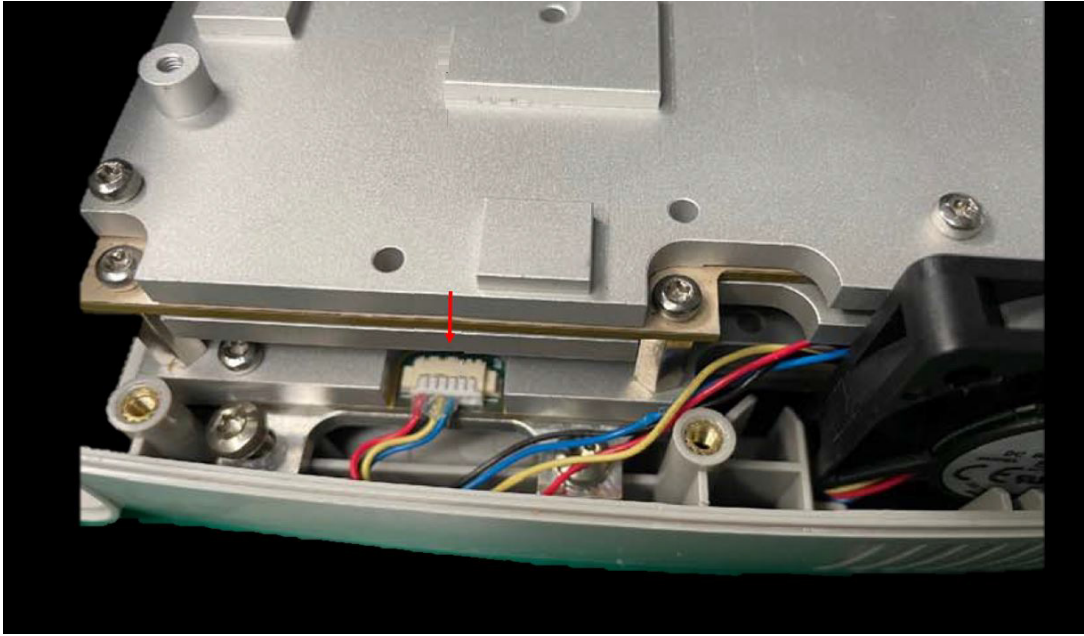

Figure 5-18. Fan Assembly Removal
1. Carefully disconnect the harness and lift the fan assembly out of the case. See Figure 5-18.
2. Make sure that the label of the fan assembly faces outwards while fitting it into the LCD top case assembly. See Figure 5-18.
3. Use caution as not to cripple the fan assembly harness in between while securing the Main PCB/SPA assembly onto the LCD Top case assembly. See Figure 5-18.